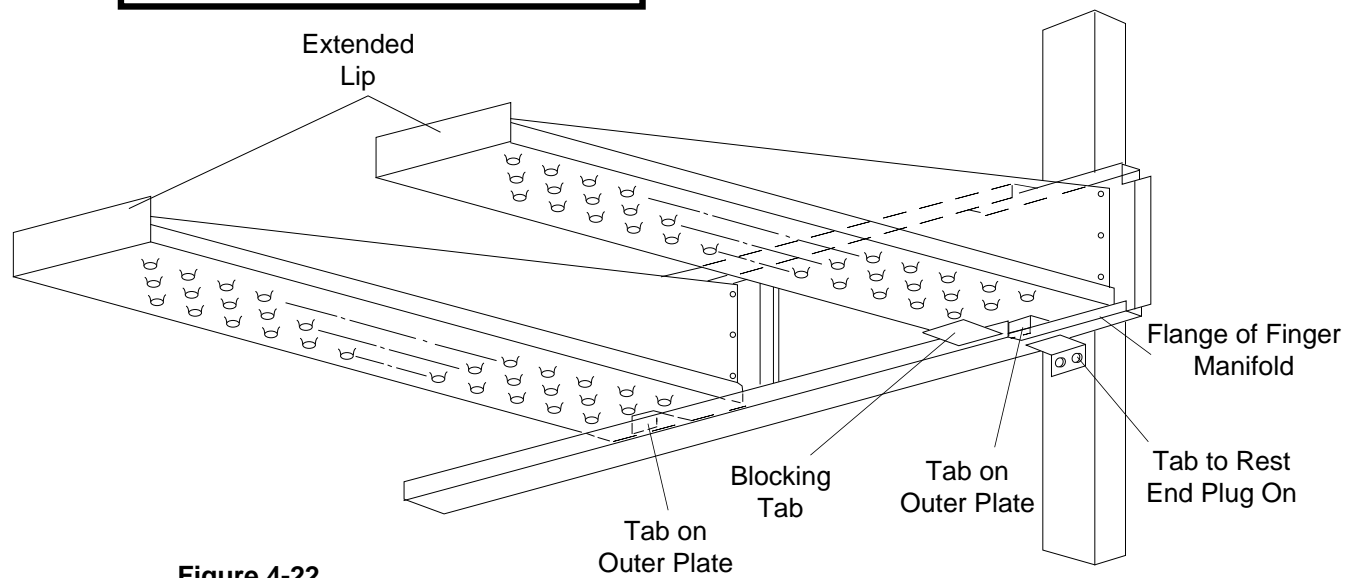

Figure 4-22.
a. **IMPORTANT:** When inserting fingers the tab on the outer plate must be in the groove as shown in the illustration. There is a blocking tab on the outside of the groove which will prevent inserting the finger in the groove if the outer plate is moved away from the flange of the finger manifold. Refer to Figure 4-22.